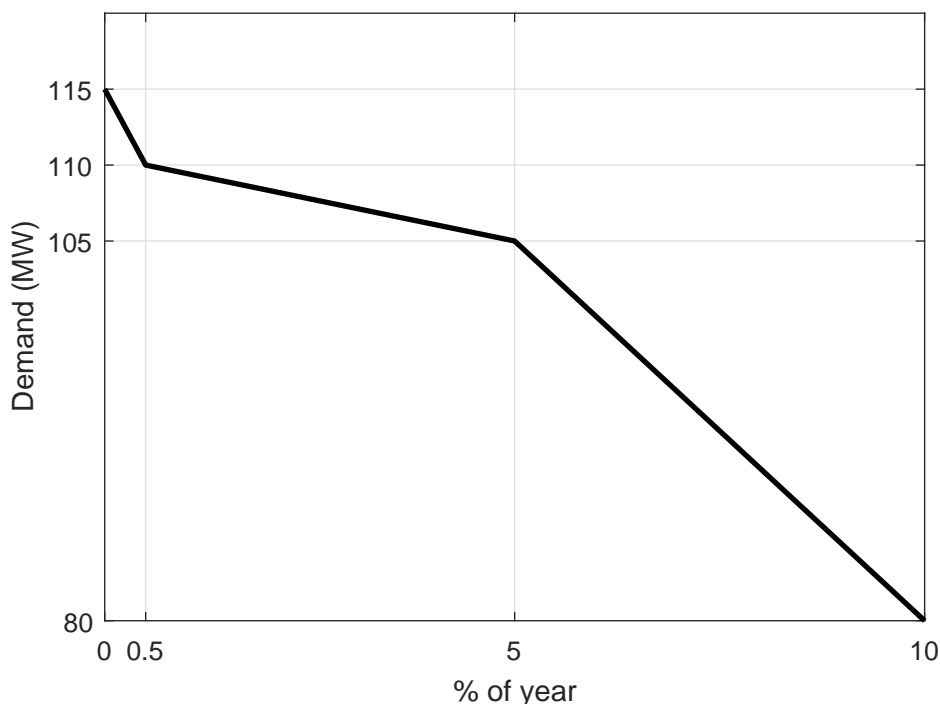

Figure 8: Problem 1.6 – Annual Demand Duration Curve for Year 5.
- (b) The annual demand duration curve projected for five years hence is shown in Figure 8. Explain whether or not the transmission system will comply with the N-1 reliability standard in five years time.